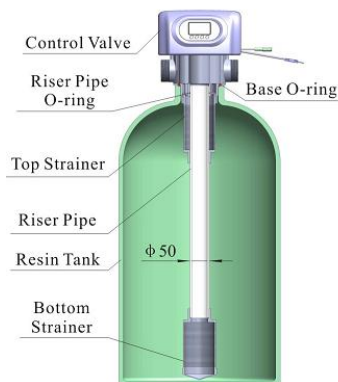

Figure 1-1
- ① The filter should be located closely to drain.
- ② Ensure the unit is installed in enough space for operating and maintenance.
- ③ The unit should be kept away the heater, and exposed outdoor. Sunshine or rain will cause the system damage.
- ④ Avoid installing the system in circumstance of acid/alkaline, magnetic or strong vibration, because above factors will cause the system disorder.
- ⑤ Do not install the filter, drain pipeline or overflow pipe in circumstance where temperature may drop below 5℃, or above 50℃.
- ⑥ Install the system in the place where with the minimum loss in case of water leaking.
① Install control valve
- a. As the Figure1-1 shows, select the relevant riser pipe, glue the riser pipe to the bottom strainer and put it into the bottom of